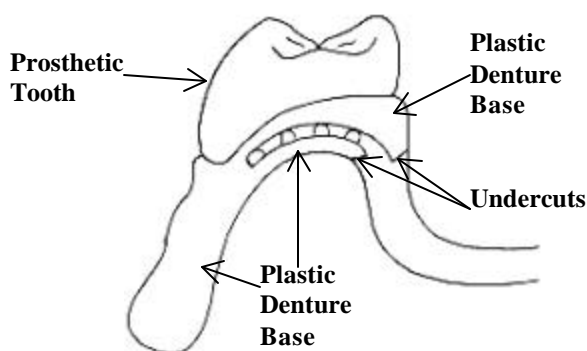

Fig. 7-1. An undercut finish line provides mechanical retention for the plastic of the denture base
2. Undercut finish lines provide mechanical retention for the plastic denture base (Fig. 7-1).